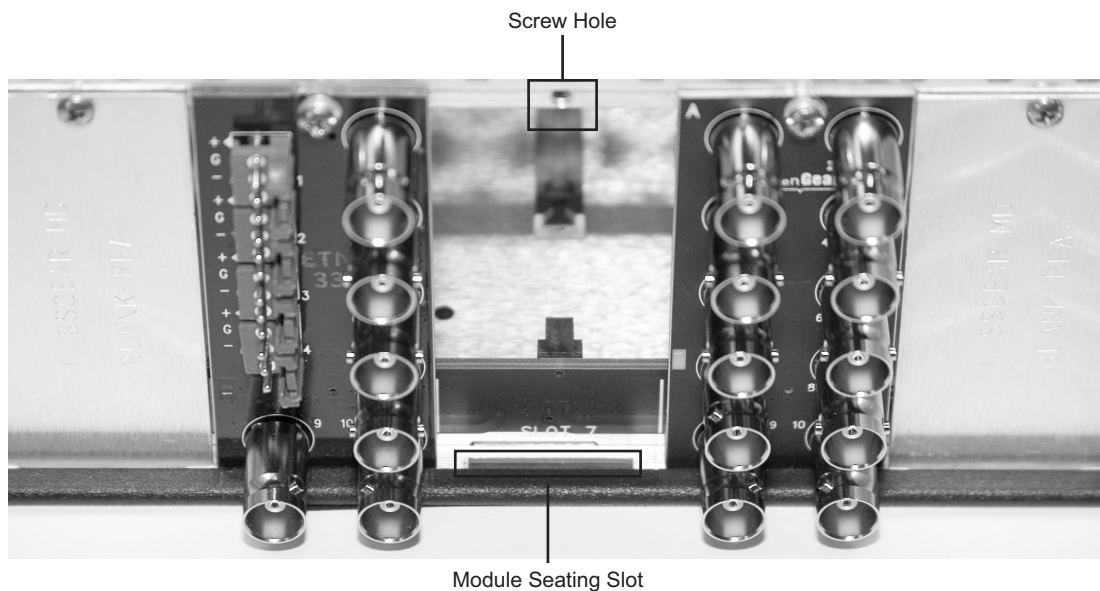

Figure 2.1 Rear Module Installation in a DFR-8310 Series Frame (VEA-8707A not shown)
3. Install the bottom of the Rear Module in the **Module Seating Slot** at the base of the frame’s back plane. (**Figure 2.1**)